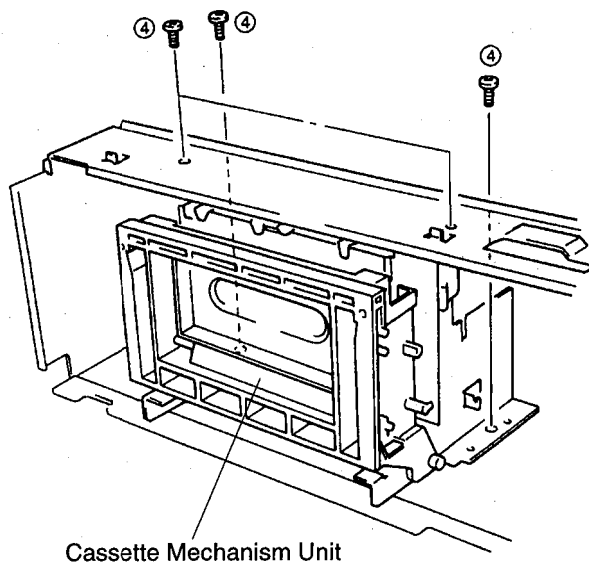

Fig. 3
- Remove 4 screws (④) in Fig. 3